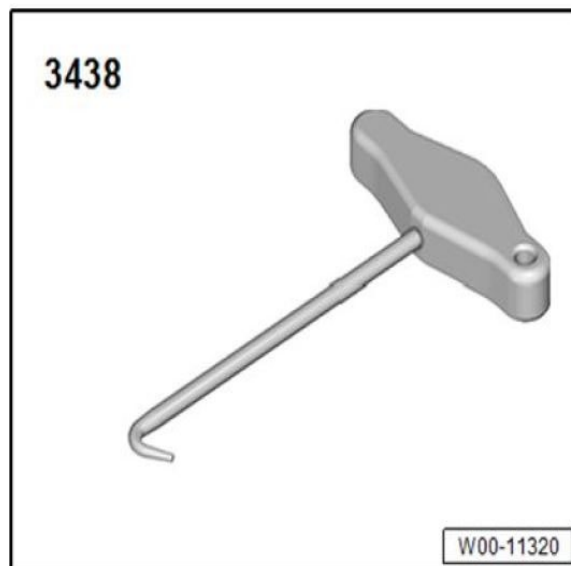
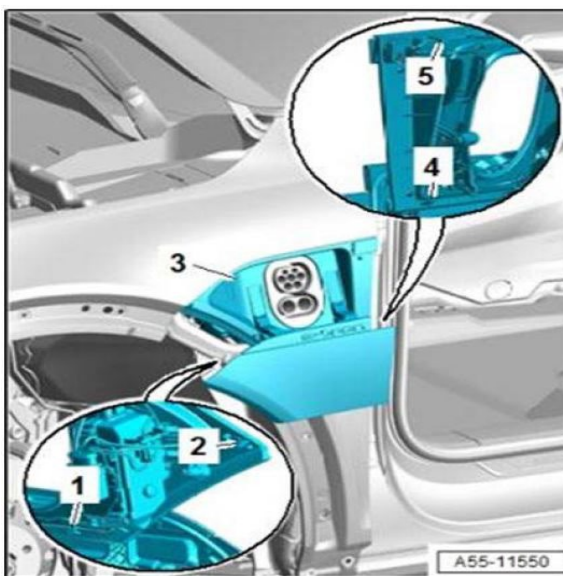

Figure 15: Hook 3438.
Figure 16: Charge door retaining tabs.
8. Use hook 3438 (Figure 15) or a screwdriver to release the remaining catches (1, 2, 3, and 4) (Figure 16).